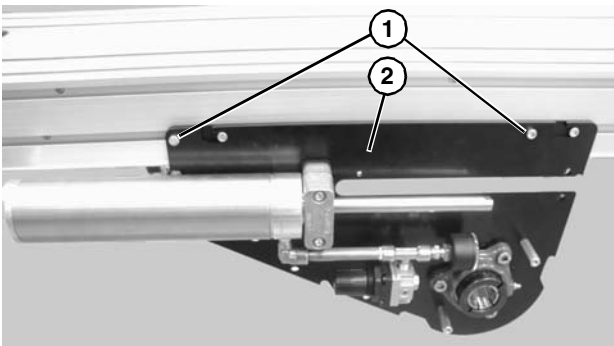

Figure 83
10. Remove screws (**Figure 83, item 1**) and pull side plate assembly (**Figure 83, item 2**) off conveyor.